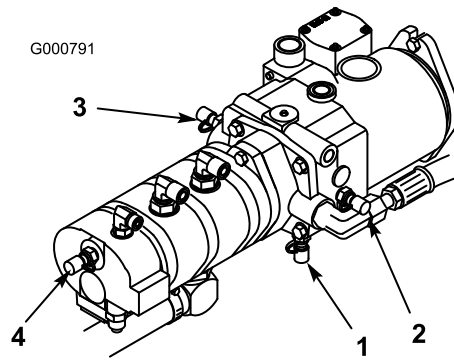

Figure 77
4. Test Port D is located on the bottom of the hydrostatic transmission (Figure 77) and is used to measure the charge pressure of the transmission.
5. Test Port E is used to measure traction forward pressure (Figure 77).
6. Test Port F is used to measure traction reverse pressure (Figure 77).
7. Test Port G is used to measure steering circuit pressure (Figure 77).